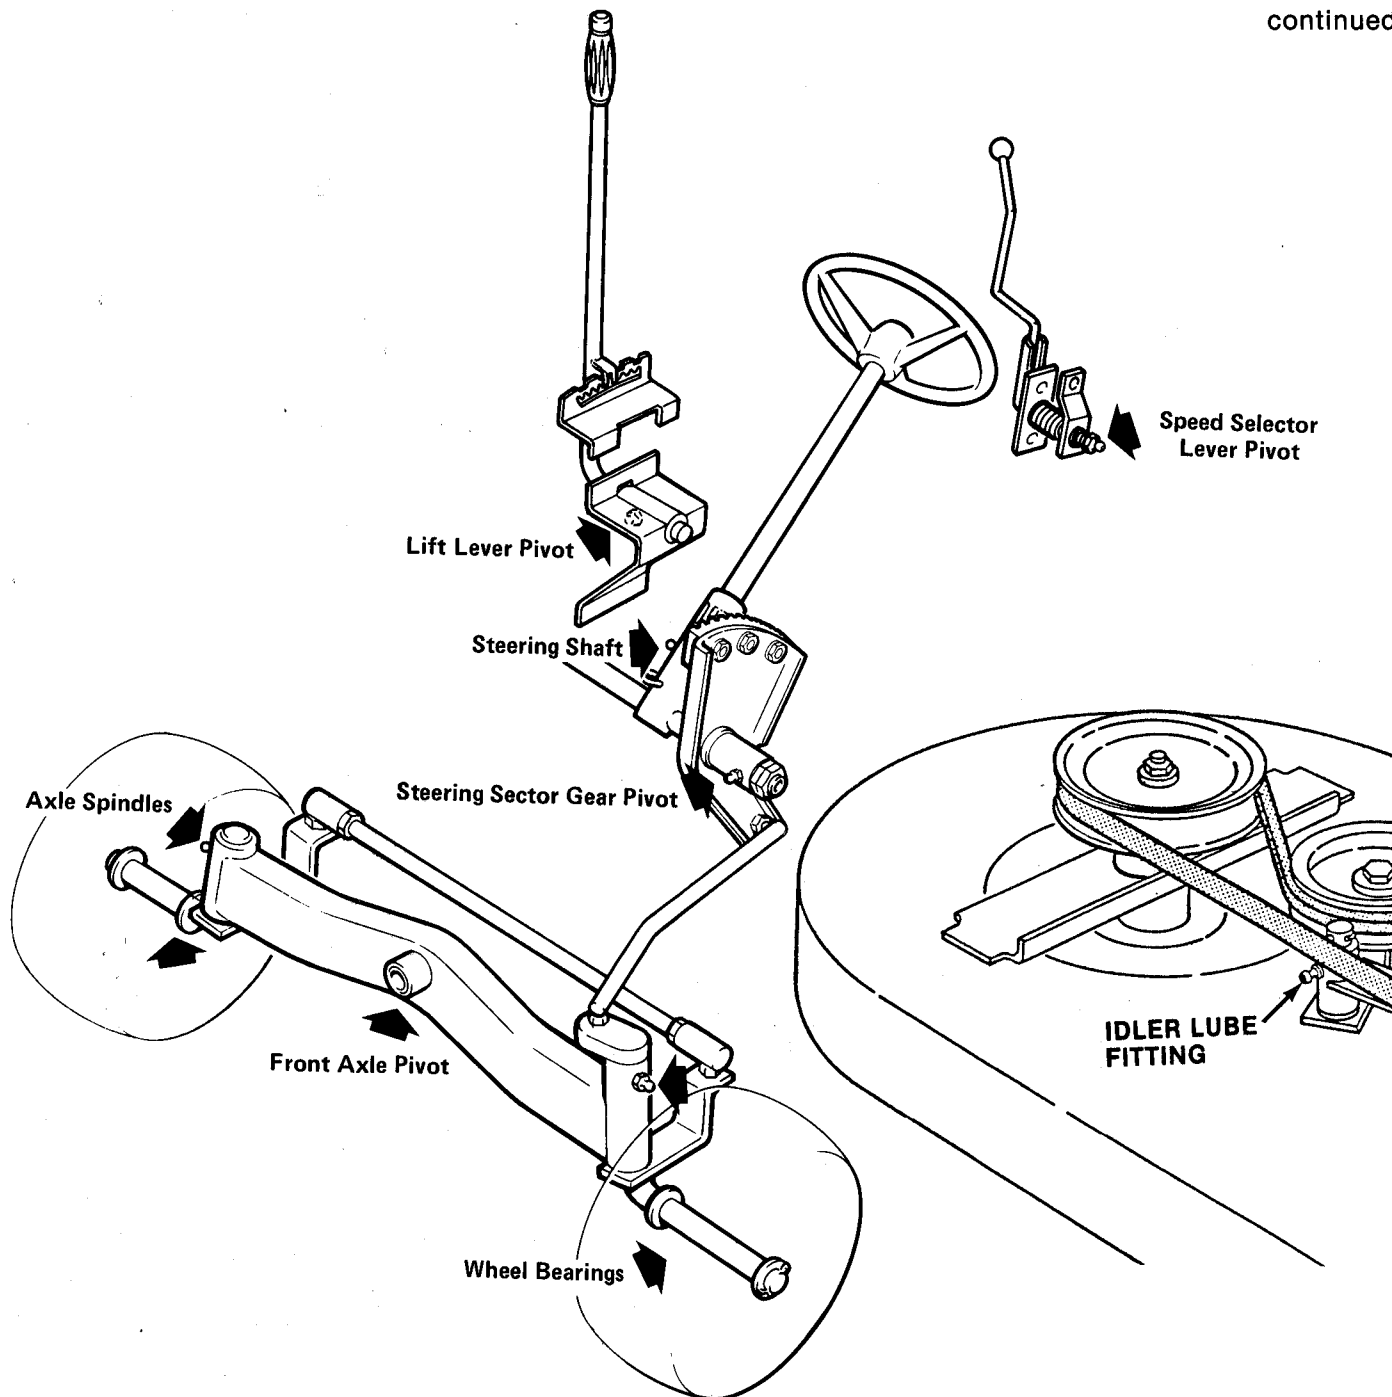

FIGURE 11 -- LUBRICATION POINT SCHEMATIC
- FRONT WHEEL BEARINGS: Lubricate bearings through the fitting on hub of front wheels (figure 11).
- FRONT AXLE PIVOT & SPINDLES: Lubricate spindle fitting at each wheel (see figure 11) and the center pivot fitting on underside of the front axle.
- LUBRICATE FITTINGS (with two shots of grease) on: 1. ground speed selector lever (figure 11 & 13) 2. implement lift lever